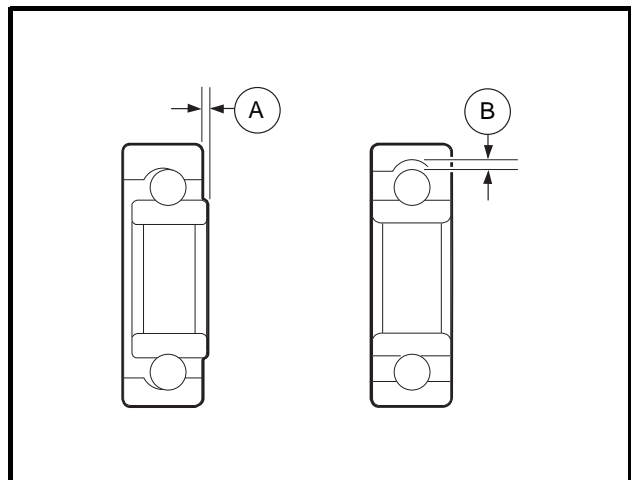

Figure 16-9 Inspect Bearing
1. Using a clean cloth, wipe the carbon dust off of the bearing. Inspect the bearing by spinning it by hand and checking for both axial (A) and radial (B) play (**Figure 16-9, Page 16-7**).